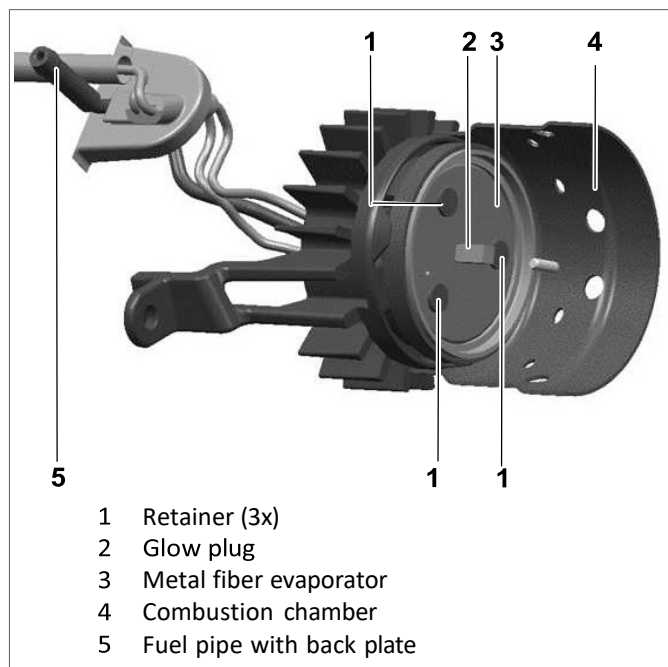

Fig. 701 Visual check, burner back plate
- Cracks, flaking as well as black or other discoloration of the metal fiber evaporator (item 3, Fig. 701) will not cause the burner to fail and do not impair operation.